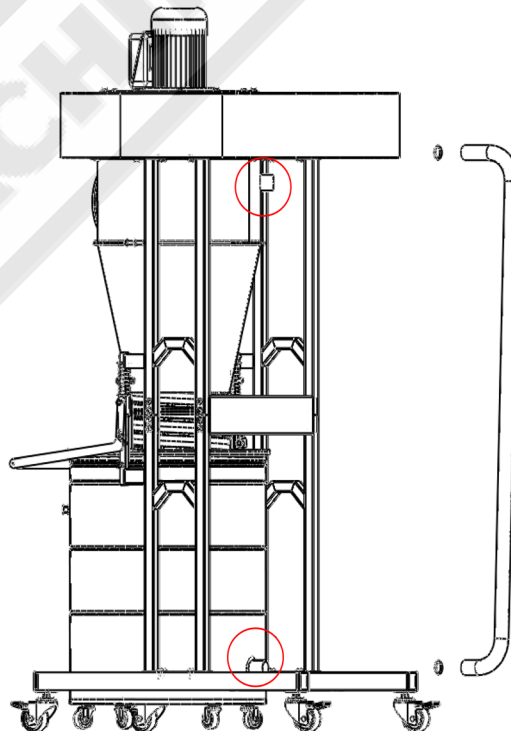

FIG. 4.13
13. Place the two 1 -3/4" hose clamps on each end of 1 1/2" x 67" vacuum hose, then connect the hose to the ports on the cyclone funnel and the collection drum. (Fig. 4.13)